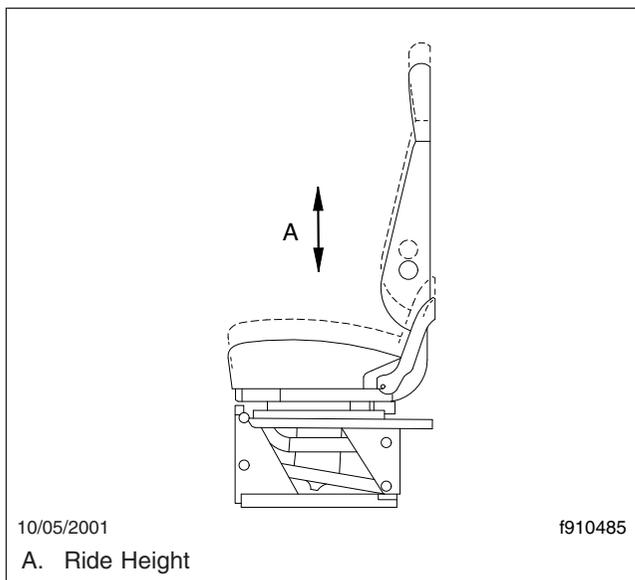

Fig. 3.7, Ride Height Adjustment
- 8. Ride Height Adjustment: The entire seat moves up or down when adjusting the ride height. The adjustment is either manual or air controlled, depending on the make and model of the seat. See Fig. 3.7.